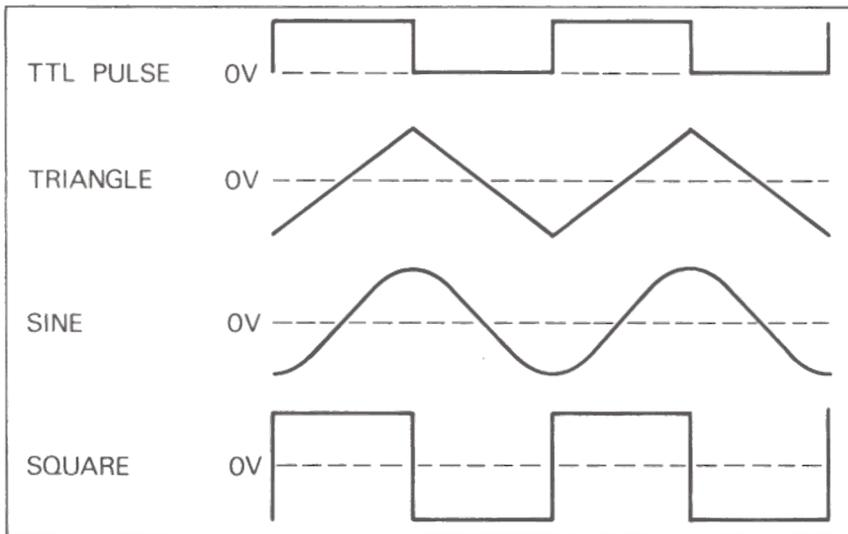

Fig. 3. Output waveform and phase relationships.
2. Select the frequency range desired by depressing the appropriate RANGE switch. The frequency range obtained as the FREQUENCY dial (6) is varied will be from one-tenth the indicated RANGE value to 10 times this value. For example, select the 10 K range. When the FREQUENCY dial is at .1, the output frequency is 1 KHz; when at 1, it is 10 KHz and when at 10 the frequency is 100 KHz. The frequency obtained applies to the signal at the TTL jack as well as the 600 Ω OUTPUT jack.
3. Select the waveform desired by depressing the appropriate FUNCTION button. The phase relationships of the waveforms available are shown in Fig. 3.
4. The amplitude of the selected output signal at the 600 Ω OUTPUT jack is adjusted by AMPLITUDE control (4). The TTL output is not affected by the AMPLITUDE control.